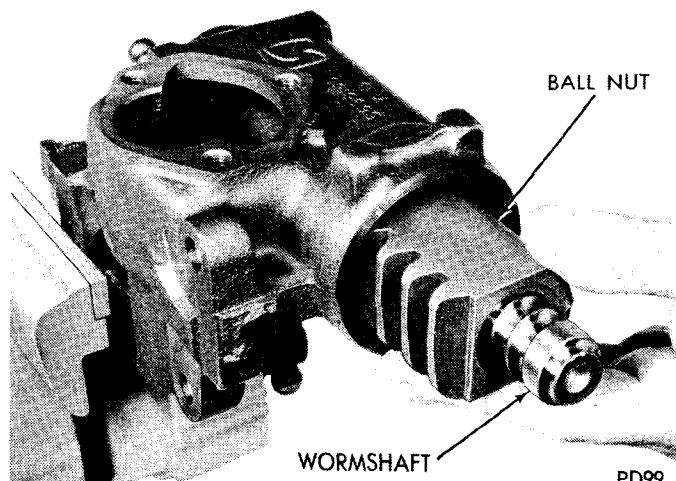

Fig. 5—Removing Ball Nut and Wormshaft
(5) Loosen wormshaft bearing adjuster locknut and remove wormshaft bearing adjuster assembly including one bearing and one race.
(6) Remove the wormshaft and ball nut assembly from the housing (Fig. 5).